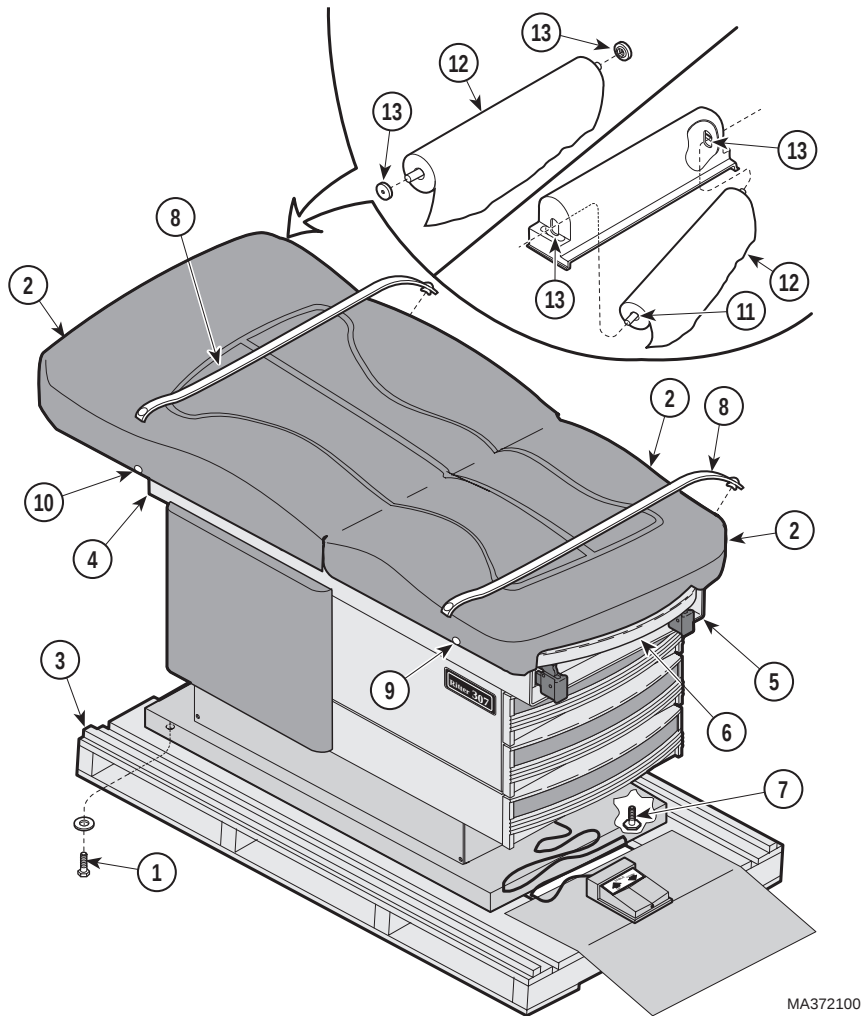

Figure 2. Table Installation
To avoid damaging the table's upholstered top or side panels, do not use a knife or other sharp object to open the table's packaging. Also, to avoid damaging the table, do not lift at points (2, Figure 2).
Unbolt the table from the wooden shipping skid by removing four bolts (1, Figure 2) from the underside of the table's base.
A leveling screw pad (7, Figure 2) is located under each corner of the table's base. Adjust the four leveling screw pads (7) up or down (by turning them) until a solid, level installation is achieved.
Two retaining straps are shipped in a drawer with the dowel rod. Install one retaining strap (8, Figure 2) on two snaps (9) and the other retaining strap (8) on two snaps (10).
A wood dowel rod (11, Figure 2) for supporting a paper roll (12) is shipped in one of the drawers. ***To install the dowel rod on a table with a styled upholstery top***, slide the dowel rod (11) through the paper roll (12) (up to an 18 in. x 3.5 in. [45.7 cm to 8.9 cm] diameter paper roll) and then insert one end of the dowel rod in one of the sockets (13), located on the rear side of the table's back section. Slide the end of the dowel rod back into the elongated hole of the socket (13) as far as possible and then push the dowel rod into the hole until the other end of the dowel rod can be inserted into the other socket (13). Center the dowel rod (11) and pull it forward to the front of the sockets. ***To install the dowel rod on a table with a cut & sewn upholstery top***, slide the dowel rod (11) through the paper roll (12) (up to an 21 in. x 3.5 in. [53.3 cm to 8.9 cm] diameter paper roll) and then place the dowel rod ends in the two dowel rod sockets (13), located on the rear side of the table's back section.